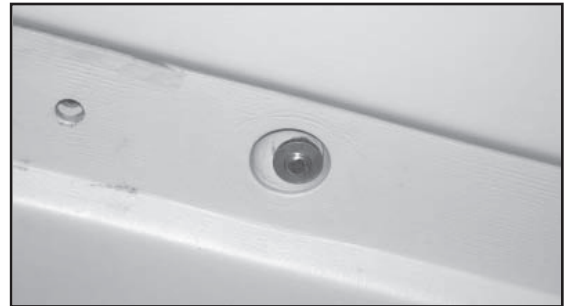

Figure 6 - Install Hardware
6. Tighten the front light bar mounting bolts and snug the rear mounting bolt until the bar and top draw together. See figure 6.